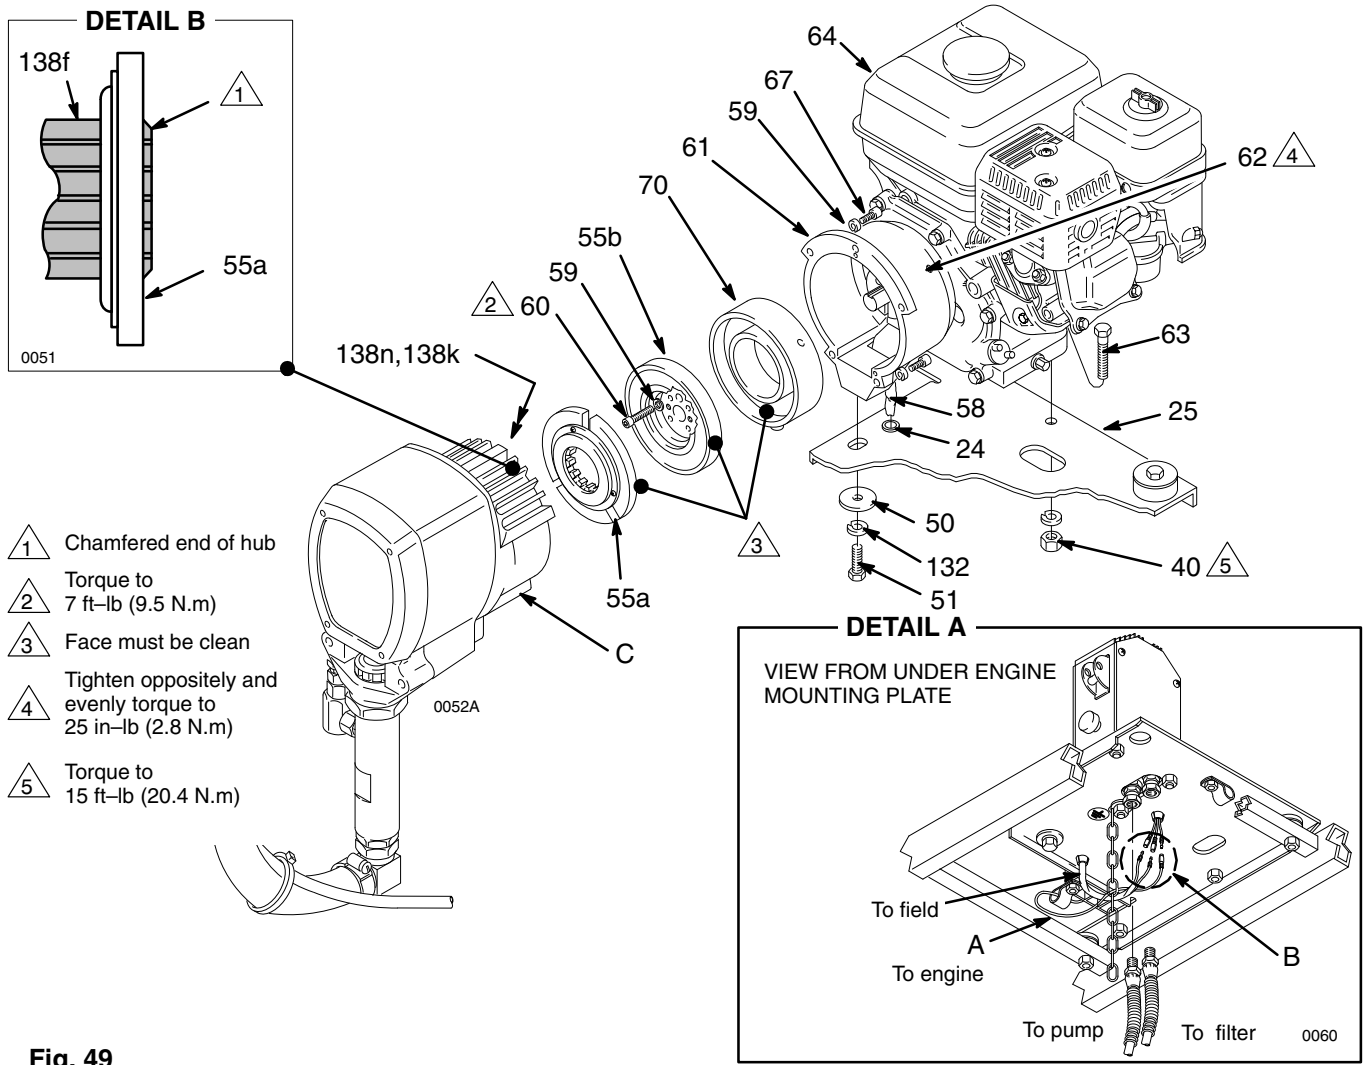

Fig. 49
- Place the **engine (64)** assembly on the cart. Align the mounting holes. Guide the engine wire (A) through the clamp at the rear of the mounting plate (25). See Detail A. Guide the wiring harness (58) from the field, through the grommet (24) in the mounting plate (25). Install the serrated flange screws (63) and nuts (40) and torque to 15 ft-lb (20.4 N.m). Install the capscrews (51), lockwashers (132) and washer (50) from under the engine mounting plate to secure the clutch housing (61). Connect the engine wire (A) to the red wire, and connect the black and white wires of the pressure control at **B** as shown in the Detail A, Fig. 49.
- Be sure the face of the **rotor (55b)** and the field (61) is free of all oil and contaminants. Install the rotor, lockwashers (59) and capscrews (60). Torque the capscrews to 7 ft-lb (9.5 N.m). See Fig. 49.
- Be sure the face of the **armature (55a)** is clean. Assemble the armature to the shaft in the pinion housing (C). A retaining ring located within the armature makes it difficult to assemble these parts. For the best results, first engage a few splines of both parts, then use a screwdriver to gently push the retaining ring into the armature, and then engage the remaining splines. Push the armature onto the shaft until it contacts the ring.
- Assemble the **drive/pinion housing (C)** to the clutch housing, using the capscrews (67) and lockwashers (59). See Fig. 49.